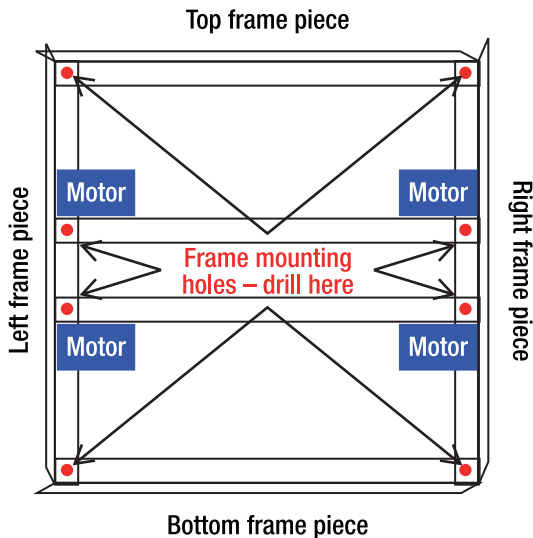

Figure 12-13. A diagram of the pieces used to build the frame
5. With the center supports bolted to the side frame rails, you can now mount the front and rear frame rails, using two more bolts on each piece. If you haven't already, drill a hole on each end of the front and rear frame rails, line them up on top of the left and right frame rails, and drill the remaining holes to bolt the front and rear frame pieces to the left and right frame pieces, completing the square shape (see Figure 12-13).